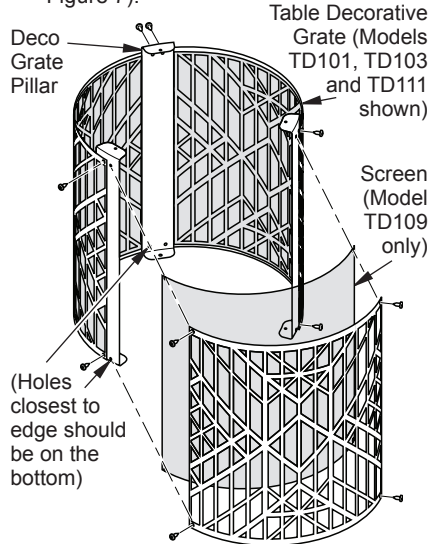

Figure 6 - Deco Grate and Grate Pillar Assembly
- grate pillars. For all models, place 3 table decorative grate pieces around grate pillars. Attach to grate pillars with 4 screws (C) per grate as shown in Figure 6.